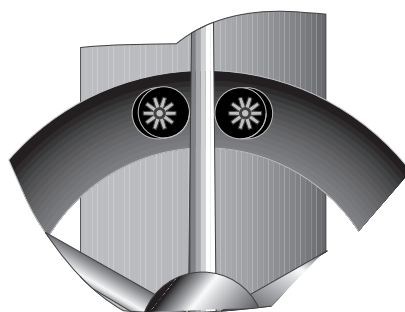

Fig 4.7 - Offset rubber spoke clamps
10. Two rubber clamps are supplied that fit over the toothed spoke pillars. The holes in the clamps are offset so that by rotating them the gap between the pillars can be increased or decreased until the wheel spoke is held securely (Fig 4.7).